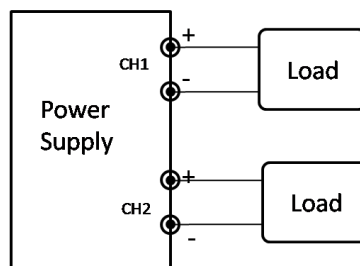

Figure 23: Connection to DC Power Supply using Channels Individually
4. Connect the positive polarity of the device being powered to the red (+) terminal of the power supply as shown in Figure 23.